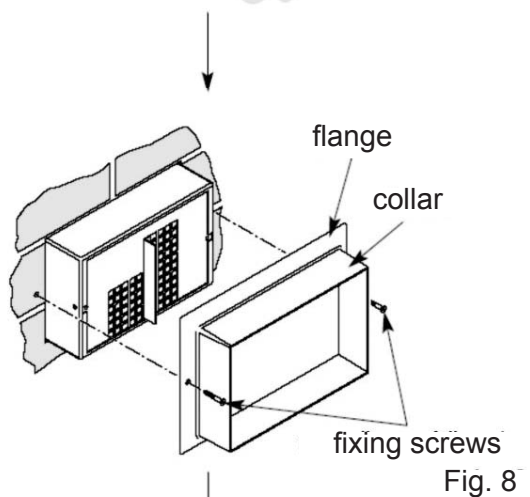

Fig. 8
1. With the outer louvre removed, slide the panel frame (flange first) on to the unit and press the flange firm against the outer wall (Fig. 8 and 9).
4. If necessary the frame flange can be secured to the wall using dowels and screws (Fig. 8).